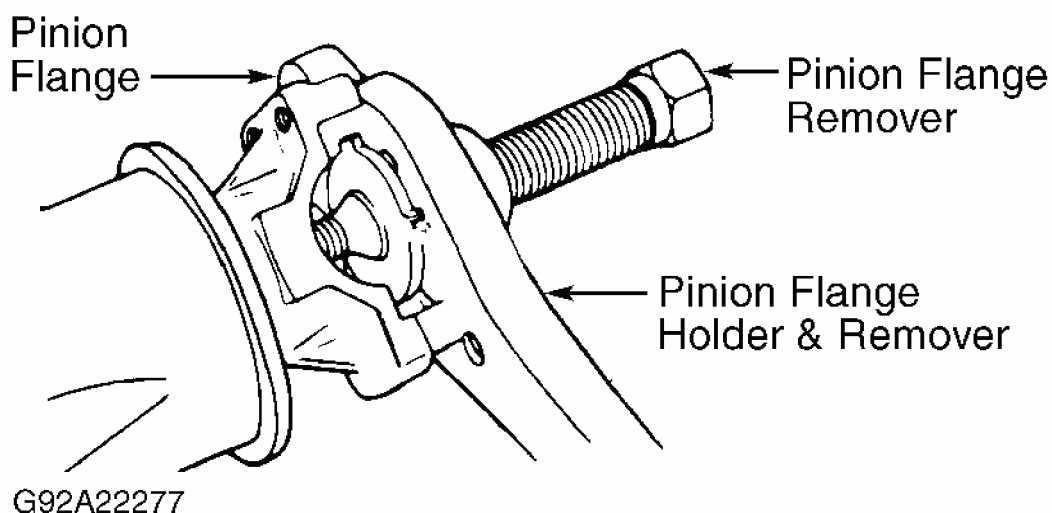

Fig. 4: Removing Pinion Flange
3. Hold pinion flange with Pinion Flange Holder (J-8614-01). See **Fig. 4** . Remove nut and washer. Install Pinion Flange Remover (J-8614-1, J-8614-2 or J-8614-3) through pinion flange holder. Pry pinion seal from housing.